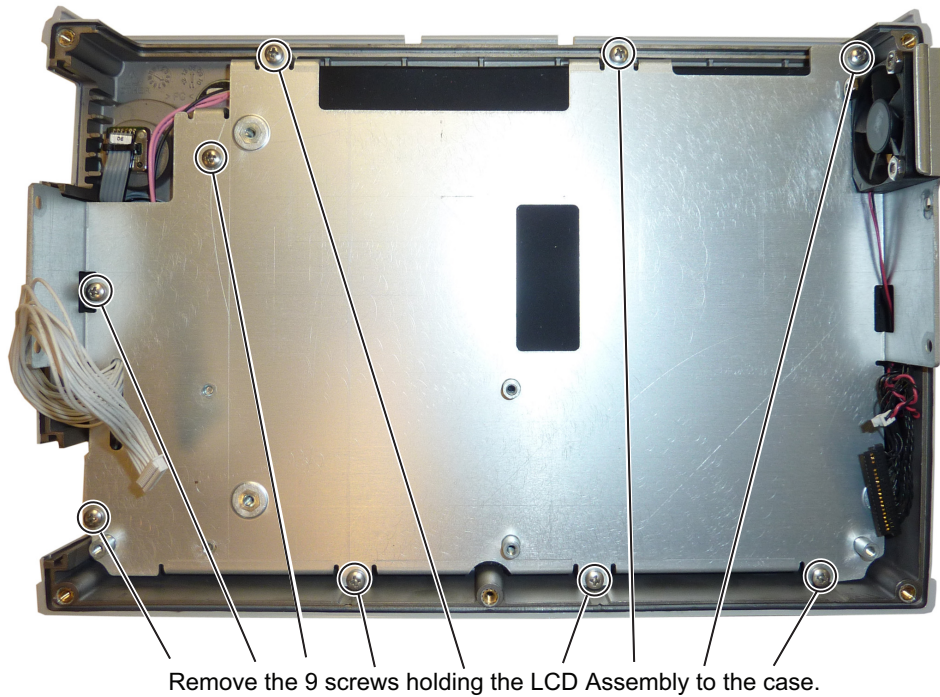

Figure 7-11. Removing the LCD Assembly
3. Remove the 9 screws connecting the LCD assembly to the front half of the case (Figure 7-11).